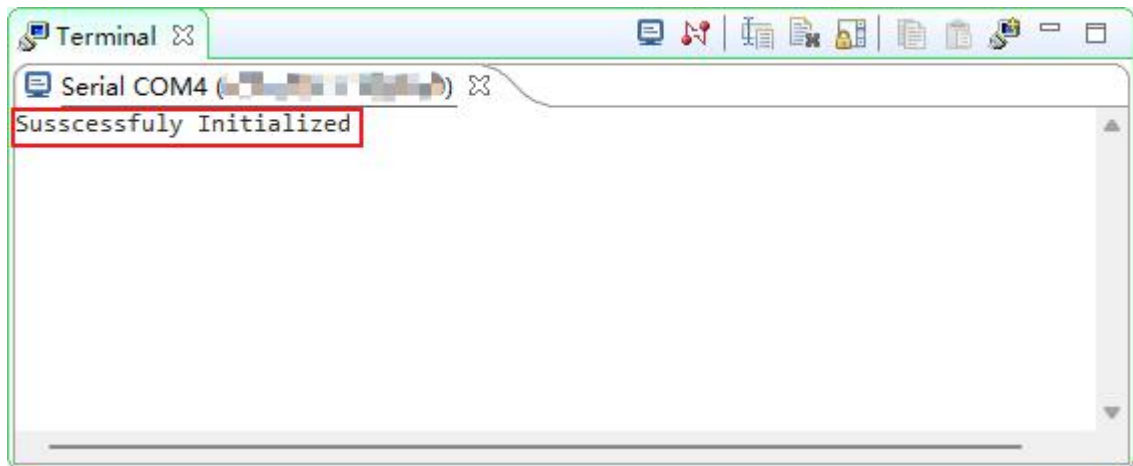

Figure 12
10. **Figure 12** shows what the Console should look like when the application is successfully run, displaying "Successfully Initialized" if GPIO initialization succeeds. Toggle the slide switches to control the corresponding LEDs in real-time. To view the output and run the application, follow **Section 4 Steps 5-8** of Lab 1 instructions (also illustrated in **Figure 13(a)-(d)**): open the Terminal view, configure the Serial Terminal settings, and set up the run/debug configuration. If the activity on Ledswitch operations has been successfully completed, proceed to **Section 2 LED Shifting**.
If you run the application successfully, the Console will display "Successfully Initialized" as shown in Figure 12, and you can toggle the slide switches to control the corresponding LEDs.